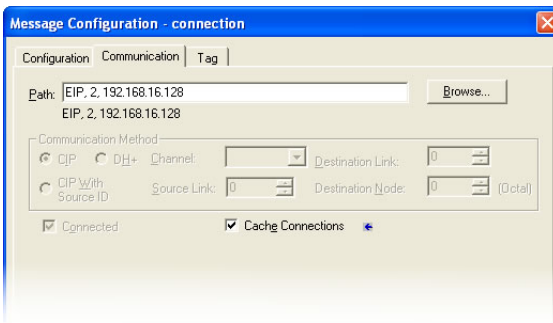

Figure 100: Setting the Communication Path
d) “Communication” tab settings (refer to Figure 100):